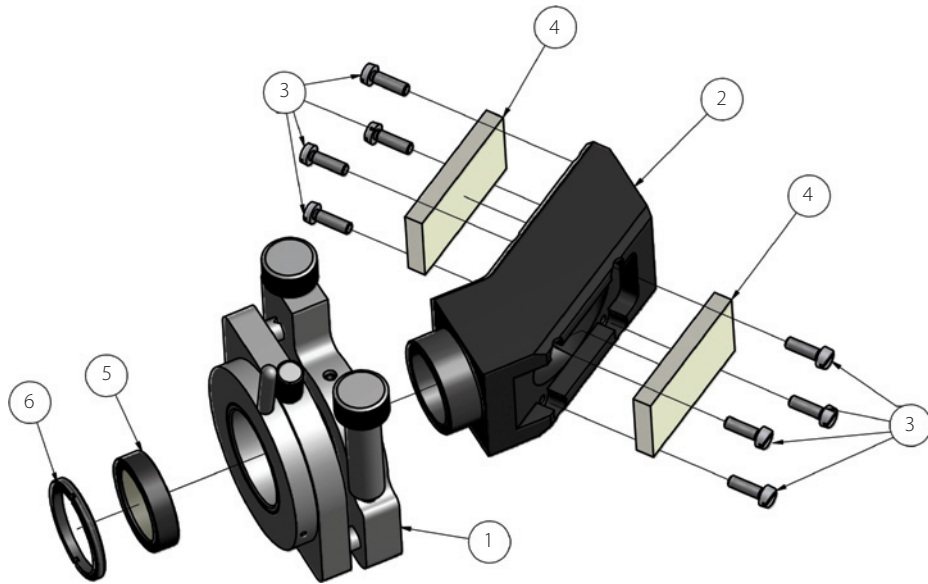

Figure 3. Assembling Watt Pilot.
Step 1 Place polarizers (figure 3, component no. 4) into mechanical adapter (figure 3, component no. 2). Polarizers must face each other with surfaces coated with polarizing coating. Polarizing coating is marked with an arrow in order to put the polarizers with the arrows on the sides facing each other. Then fix polarizers with the plastic bolts (figure 3, component no. 3). Use all 4 plastic bolts to fix one polarizer.
Step 2 Put wave plate (figure 3, component no. 5) into attenuator (figure 3, component no. 1) between two mounting rings (figure 3, component no. 6) as shown. Be sure the waveplate is immobilized tightly.
Step 3 Attenuator consists of two mechanical parts. You should assemble both mechanical parts together (figure 3, component no. 1 and no. 2).